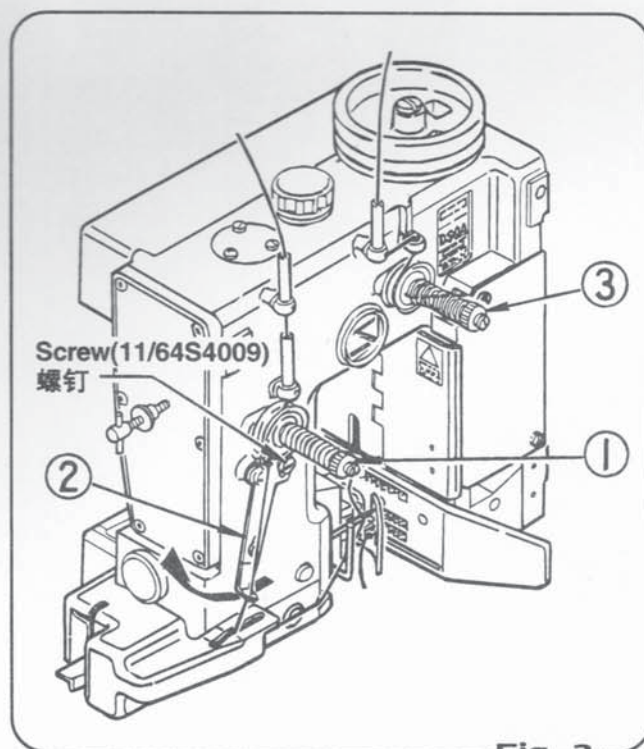

Fig. 3
### 1. Thread Tension (Figure 3)
Proper thread tension may slightly vary with the type of bag and thread. The norm is given below. Thread tension regulators are mounted so that the tension is uniform for stitch length. To adjust the tightness of seam, adjust ①, ③ in Figure 3.
### 1. 穿线张紧度调整(图3参照)
线调节是在缝口袋时最重要的项目。请注意。线调节不对可能成为断线、跳针、破袋等的故障原因。由于袋料和缝线种类,线调节(图3-①、③)有些不一样,但原则上按下记指示进行调整。